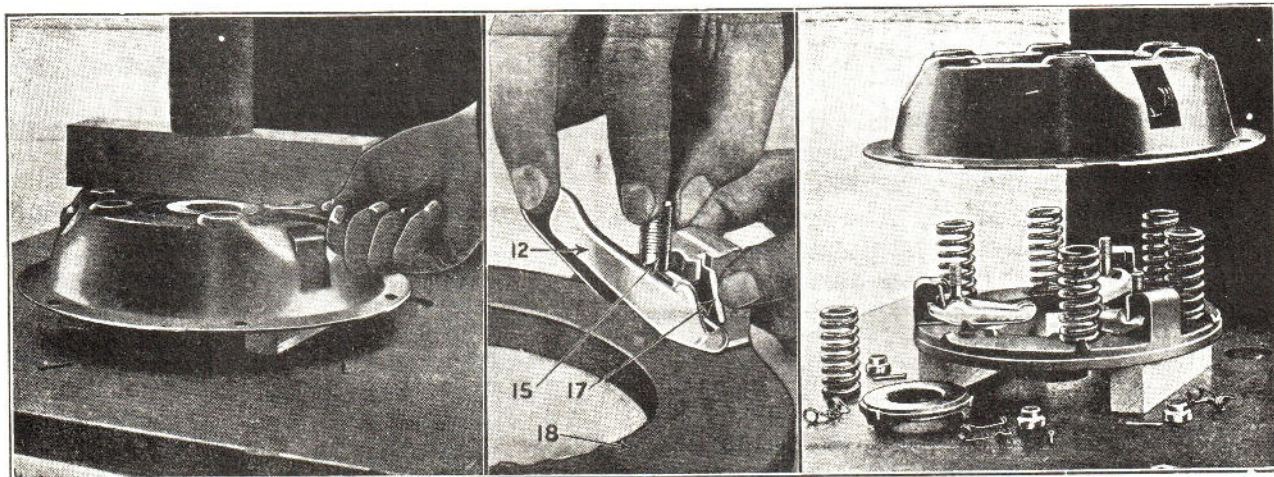

Fig. 31.
1. Suitably mark cover (4) pressure plate lugs (18) and release levers (12) in such a manner that they can be re-assembled in the same relative position to each other in order to preserve balance and adjustment.
2. Detach release lever plate (10) and place cover assembly under a press with pressure plate (18) resting on wood blocks so arranged that cover (4) is free to move down.
3. Place block of wood across top of cover, resting on the spring bosses (see Fig. 31).
4. Compress the cover with the spindle of the press, and, holding it under compression, remove split pins and eyebolt nuts (14) also the L shaped spacers previously inserted to hold spring pressure.
5. Release pressure gradually to prevent thrust springs (5) flying out.
7. Remove release levers (12) by grasping the levers and eyebolt (15) between finger and thumb as shown in Fig. 31 so that the inner end of lever and threaded end of eyebolt are as near together as possible, keeping the eyebolt pin in position in lever.
8. The strut (17) Fig. 31 can be lifted over the ridge on the end of the lever making it possible to lift eyebolt (15) off pressure plate.
2. Place pressure plate (18) on blocks under press (as described under Dismantling) and place thrust springs (5) on it in a vertical position, seating them on the bosses on the pressure plate.
3. Assemble release levers, eyebolts and eyebolt pins holding the threaded end of eyebolt and inner end of lever as close together as possible. With other hand insert strut (17) in the slots of the pressure plate lug sufficiently to allow the plain end of eyebolt to be inserted in hole in pressure plate. Move strut (17) upwards into slots in pressure plate lugs and over the ridge on the end of the levers, and drop into the grooves formed in the levers.
4. Lay cover (4) over assembled parts, taking care that the anti-rattle springs (13) are in position shown in Fig. 31 and that the tops of the springs are directly under the seats in the cover. Also make sure, if using the original parts, that eyebolt nuts, eyebolt, pressure plate lugs and cover are